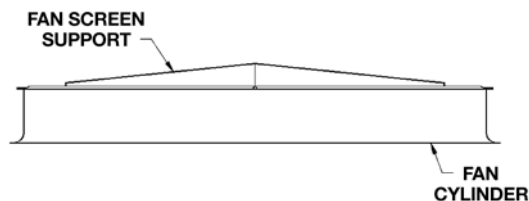

Figure 12 - Support Frame Installation
2. The fan screen is supported from underneath by an "X" shaped support frame. Set the support frame across the top of the discharge cylinder (See Figure 12), and fasten to cylinder with 3/8" bolts.